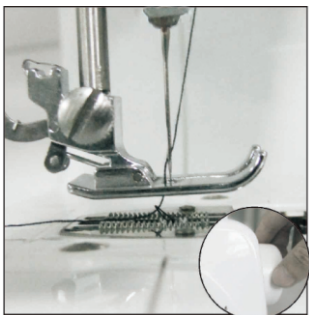

Fig.9
3. Hold the end of the upper thread with one hand, and turn the hand wheel counterclockwise with the other hand, the needle thread will pick up the bobbin thread and pull it up through the hole under the needle (Fig. 9).